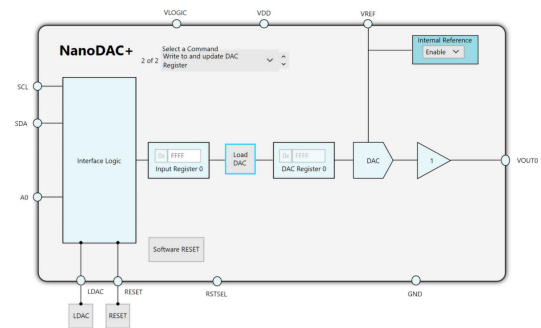
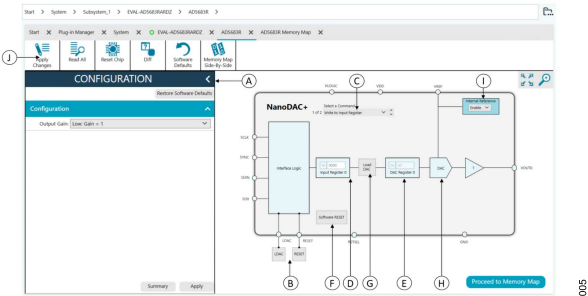

Figure 4. Chip Block Diagram View of the AD5683R or AD5693R
Figure 5. Block Diagram with Labels
4. Double-click the **AD5683R** or **AD5693R** chip to access the chip view as shown in Figure 4. This view provides a basic representation of the functionality of the board. See Figure 5 and Table 1 for the details on the main function blocks of the board.
Some of the blocks and their functions are described in this section as they pertain to the EVAL-AD5683RARDZ or EVAL-AD5693RARDZ. The block diagram is shown in Figure 5, and Table 1 describes the functionality of each block.